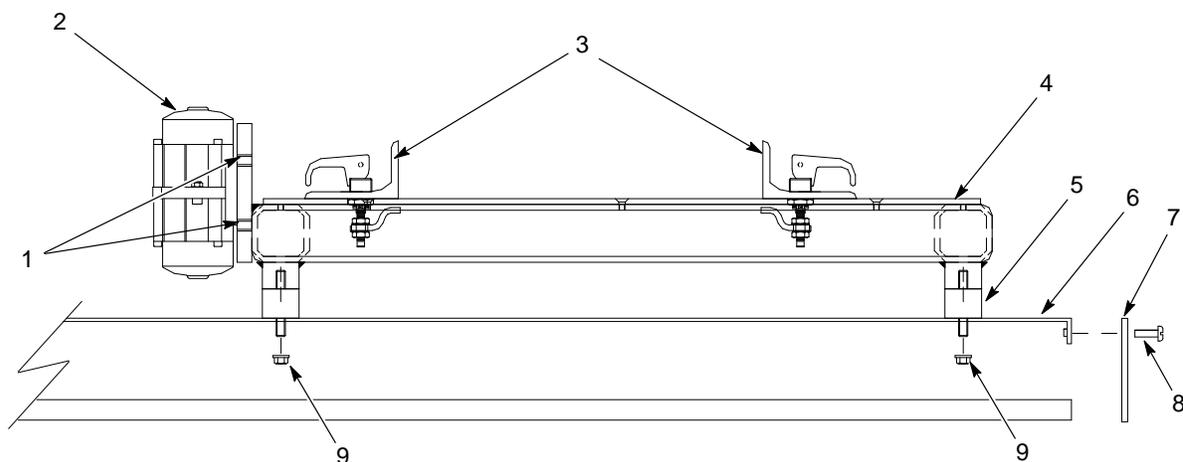

Figure 8-5 Vibratory Table Isolator Mount Replacement (Side View of Vibratory Table)
1. See Figure 8-5. Remove both box guides (3) from the vibratory table (4) and set them aside.
2. Remove the four socket-head cap screws and lock washers (1) securing the vibrator motor (2) to the vibratory table.
4. Remove the kick plate (7) on the bottom front of the feed center by removing the five screws (8).
5. Remove the four  $\frac{5}{16}$ -18 flange nuts (9) securing the vibratory table to the feed center floor (6).
7. Unscrew the four isolator mounts (5) from the vibratory table.